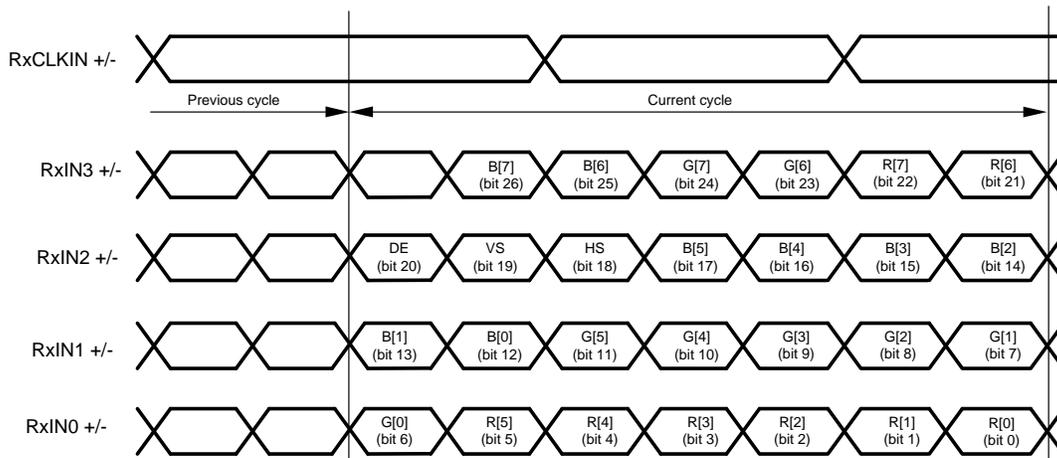

Figure 23. 8–Bit Channel Link Mapping: MSB's on RXIN3
- The normal Channel Link LVDS format (MSBs on LVDS Channel 3) can be selected by configuring the MAPSEL pin to high. See Figure 23 for the normal Channel Link LVDS mapping.